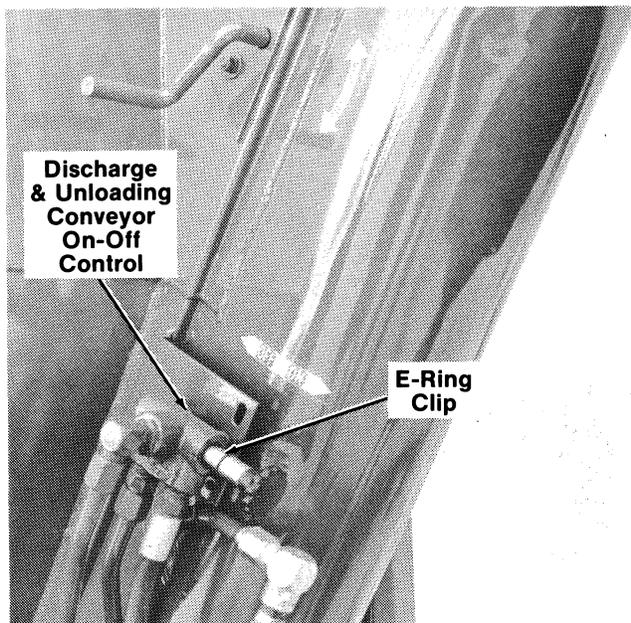

Fig. 9-9
**HYDRAULIC SHUT-OFF VALVE (Fig. 9-9)**